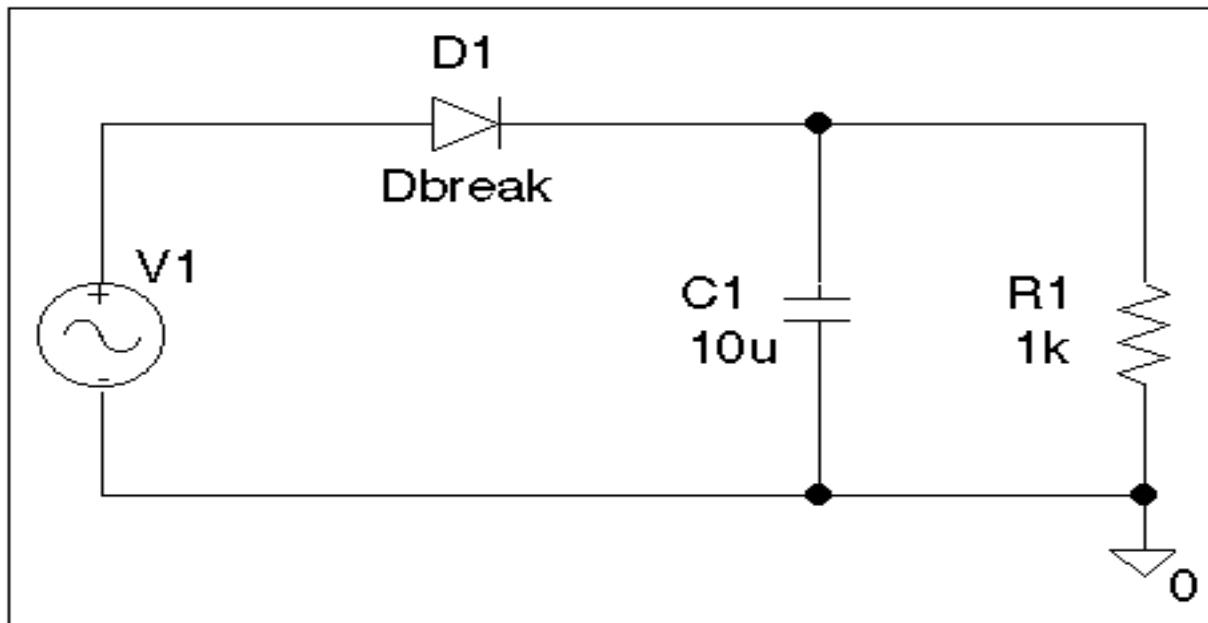

Figure 4-4 Design for a half-wave rectifier.
5. Place one each of the following parts (reference designator shown in parentheses) as shown in Figure 4-4:
7. From the Place menu, choose Wire, and draw the connections between parts as shown in Figure 4-4.